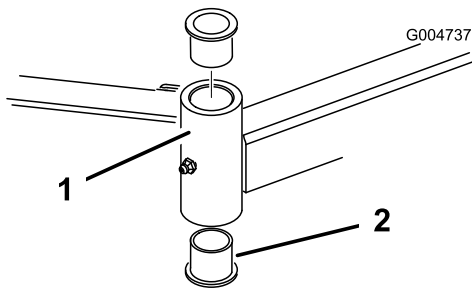

Figure 84
4. Insert a pin punch into the top or bottom of the mounting tube and drive the bushing out of the tube (Figure 84).